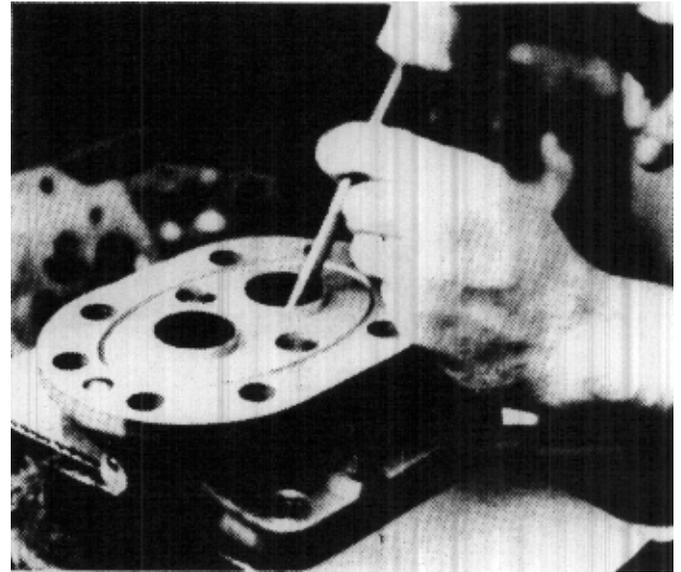

FIGURE 109
4. Turn the plate over and lay it down on the open jaws of a vise or other appropriate support. Use a punch and mallet (or a light hammer) and tap the old seal out of the bore. USE EXTREME CARE IN THIS PROCEDURE. Do not mar the machined surfaces of the flange. Move the punch around the seal so that it produces even movement of the seal down the bore. (Fig. 109)